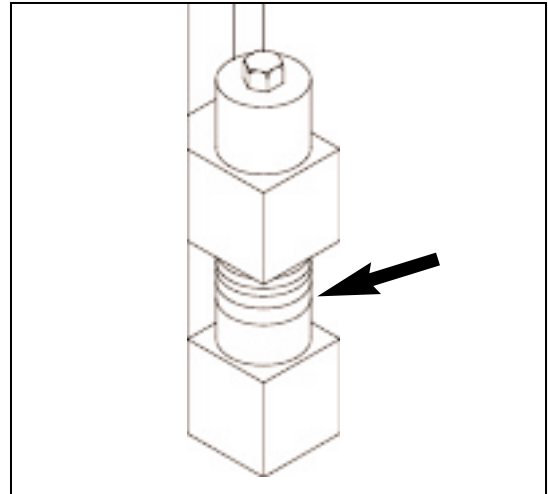

Figure 4.53 63mm (2 1/2") OF SPACERS
- e. Store spacers on bottom side of bolt for front bolts and left hand rear bolt. For right hand rear bolt, store spacers on top. Tighten bolts at all 4 corners that secure mold throat plate spacers (see figure 4.53).